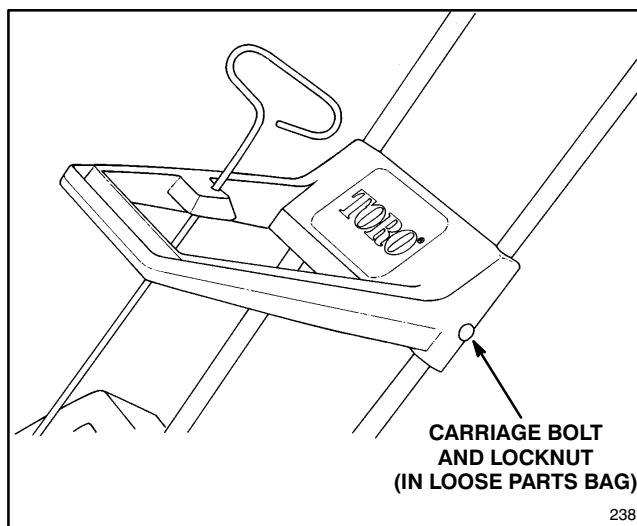

Figure 2
5. Install carriage bolts with heads of bolts to the outside of the middle handle (Fig. 2). Screw locknuts onto carriage bolts and tighten assembly. Be sure carriage bolts are completely inserted through middle handle before tightening locknuts.